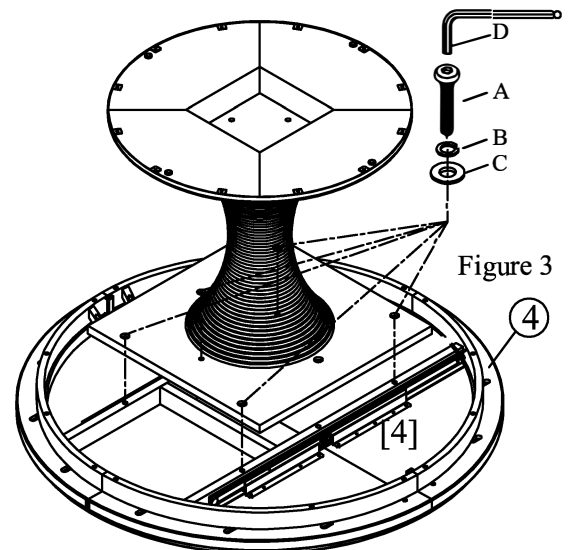

Figure 3
STEP 3. Turn the table top (4) upside down on clean soft surface attach the post assembly to the top (1) as shown in the picture using bolt (A), lock washer (B), flat washer (C) and tighten them by allen key (D). See Figure 3